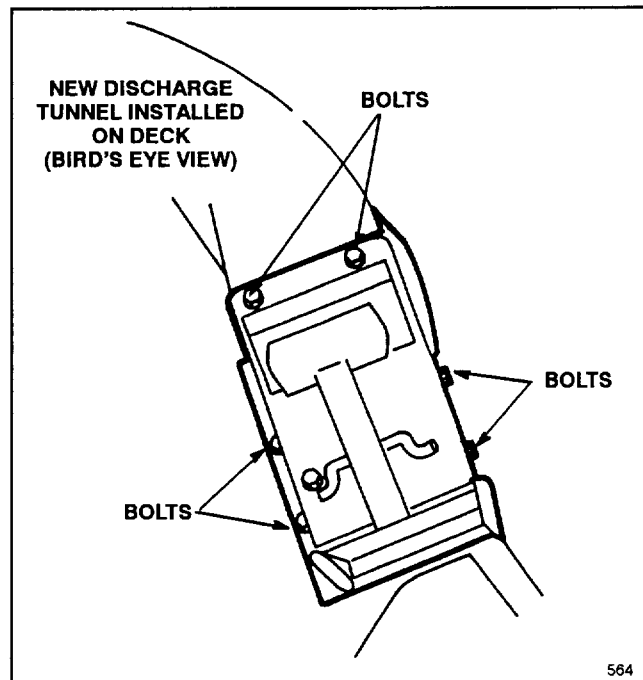
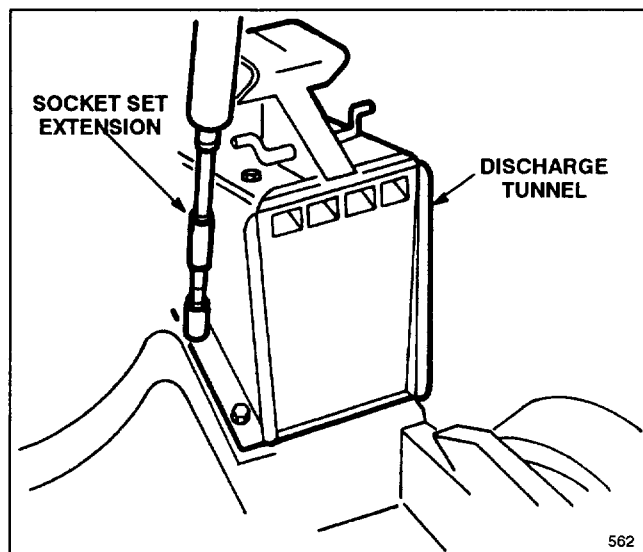

Figure 1
Figure 2
1. Remove (6) bolts securing old discharge tunnel to deck. Discard the old tunnel and save the (6) bolts for installation of new discharge tunnel.
2. Position new discharge tunnel and door assembly on deck (Fig. 1). Align holes in tunnel with holes in deck.
3. Secure the new discharge tunnel to deck using the (6) bolts removed from the old tunnel (Fig. 1). A socket set extension may be necessary to secure the front-left bolt (Fig. 2).